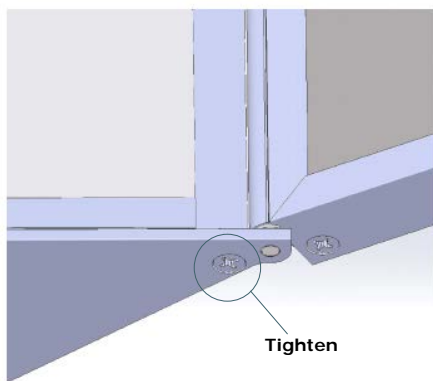

Figure 12
6. Once the wing assembly is installed, tighten the lower screw that was loosened in step 1. This will compress the washers adding friction to the wing movement. **(See Figure 12)**